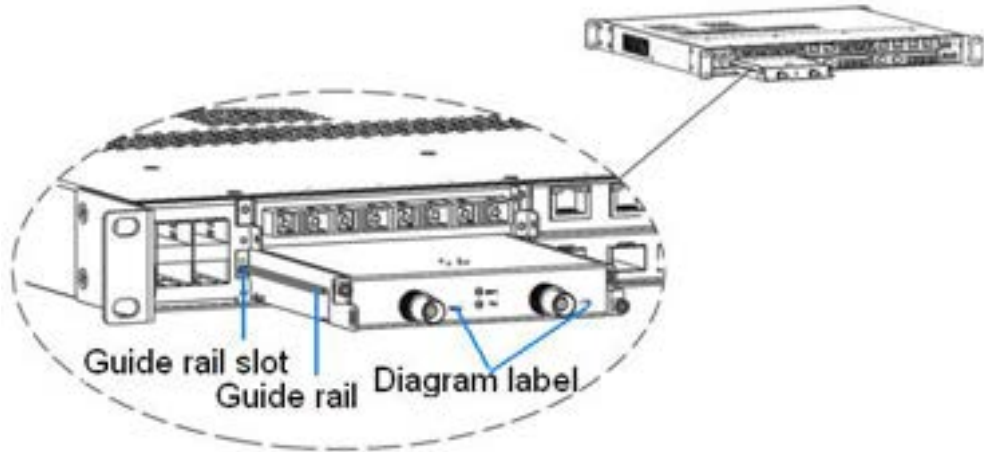

Figure 5 Module Installation 3
Step 1: Place the module with the diagram label upside down. Insert the guide rail of module into the guide rail slot, as shown in Figure 5,